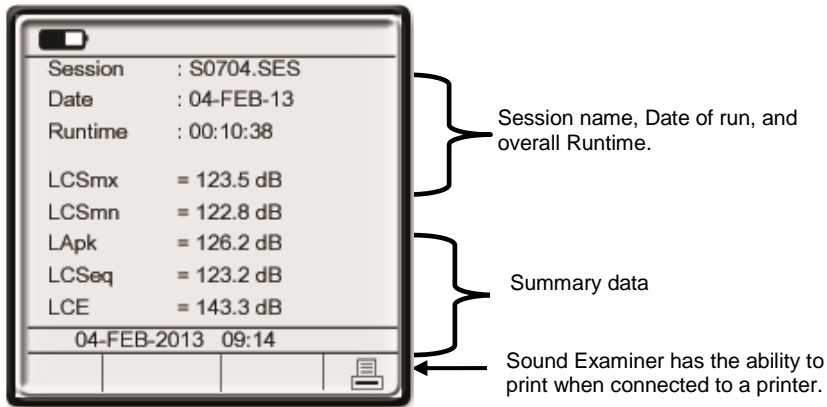

Figure 4-12: Reviewing Session Data
- When selected, the session summary screen appears as indicated in Figure 4-12.